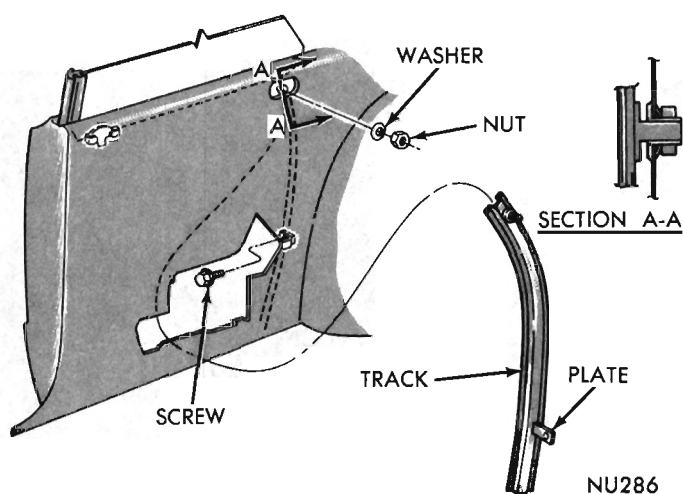

Fig. 41 - Rear Track
(1) Remove nut and washer from track upper sleeve nut (Fig. 41).
(2) Remove track lower plate to support screw.
(3) Push track inward and move track and roller assembly forward to disengage roller from slot in glass lower frame.